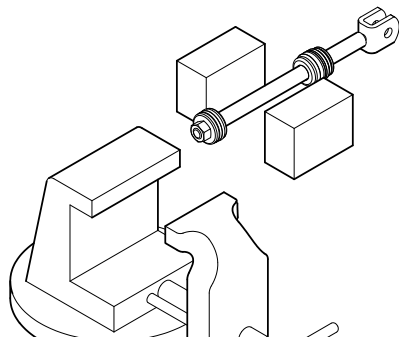

Figure 6-4, Cylinder Shaft
6. Clamp the rod assembly in a soft jawed vise on the wrench flats, **not on the rod surface**. If the rod does not have wrench flats use two pieces of wood on both sides of the rod to prevent scarring. (Figure 6-4)